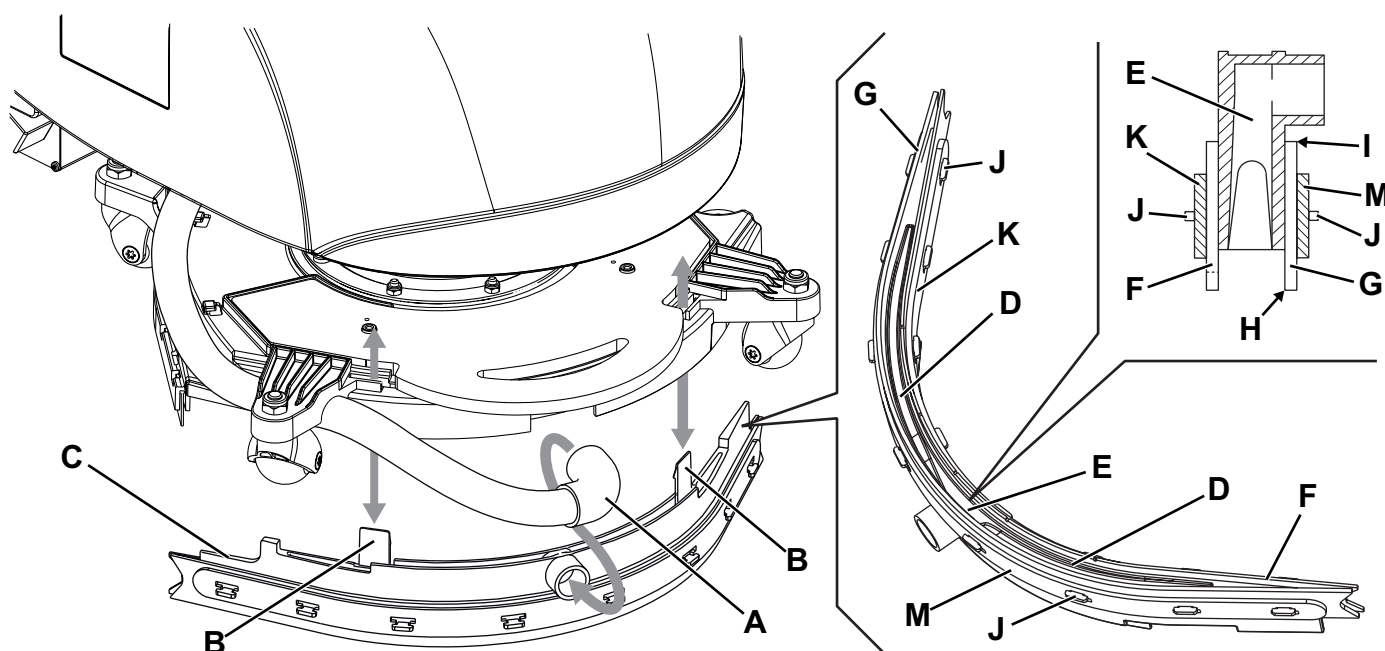

Figure 4
2. Turn the knob (32) to "0" and disconnect the battery (7).
3. Fully turn the brush/pad-holder deck (12) counter-clockwise.
4. Disconnect the vacuum hose (A, Fig. 4) from the squeegee by loosening the hose clamp.
5. Disengage the fasteners (B) and remove the squeegee (C) by pulling the squeegee off in a downward direction from the deck cover.
6. Clean the squeegee. In particular, clean the compartments (D) and the vacuum hole (E) from dirt and debris.
7. Check the front blade (F) and the rear blade (G) for integrity, cuts and tears; if necessary replace them (see the following paragraph).
2. Check the front blade (F, Fig. 4) and the rear blade (G) for integrity, cuts and tears; otherwise replace them according to the following procedure. Also check the front corner (H) of the rear blade for wear; if it is worn, turn the blade over to replace the worn corner with the other one (I), if it is integral. If the other corner is worn too, replace the blade according to the following procedure:
- Remove the blade by disengaging the fastener straps (K or M) from the fasteners (J), then replace (or overturn) the blade (G or F).
3. Install the squeegee (C) by installing the fasteners (B) in the deck cover.
4. Connect the vacuum hose (A) to the squeegee by tightening the hose clamp.